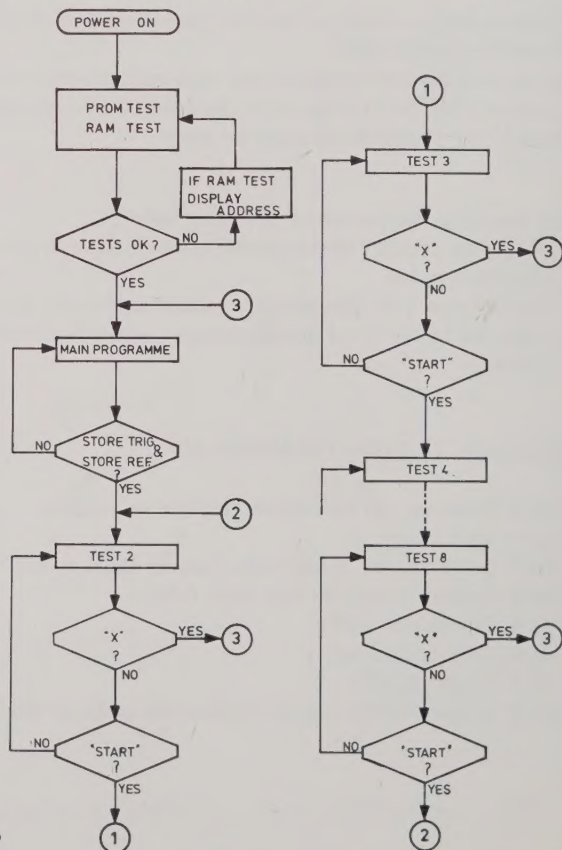

Fig. 1. Flow chart of the test procedure
- Fig. 1. Flow chart of the test procedure
If no display, or only one dot appears, one of the possibilities is that the micro-processor remains in the PROM test. The micro-processor is then continuously checking the sum of stored information in the EPROM's. If the display shows an address, the instrument is looping in the RAM test. The micro-processor is continuously checking the address which delivers the faulty data (see Fig. 1).
By pressing the START pushbutton the logic scope enters test 3 and so on until test 8. When START is pressed during test 8 the logic scope jumps to test 2 again (see Fig. 1).